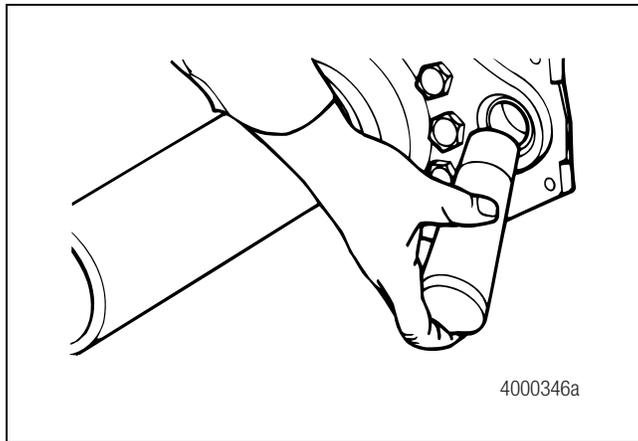
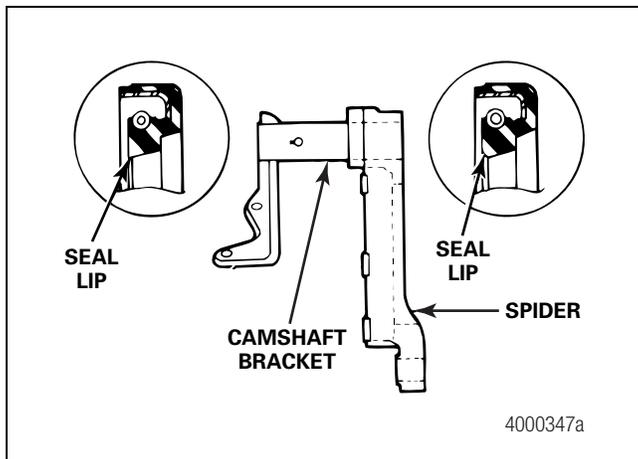

Figure 3.10
Figure 3.11
2. Use a seal driver to install new camshaft bushings and new seals into the cast spider and camshaft bracket. Figure 3.10. The lips of the seals must face the slack adjuster. Figure 3.11.